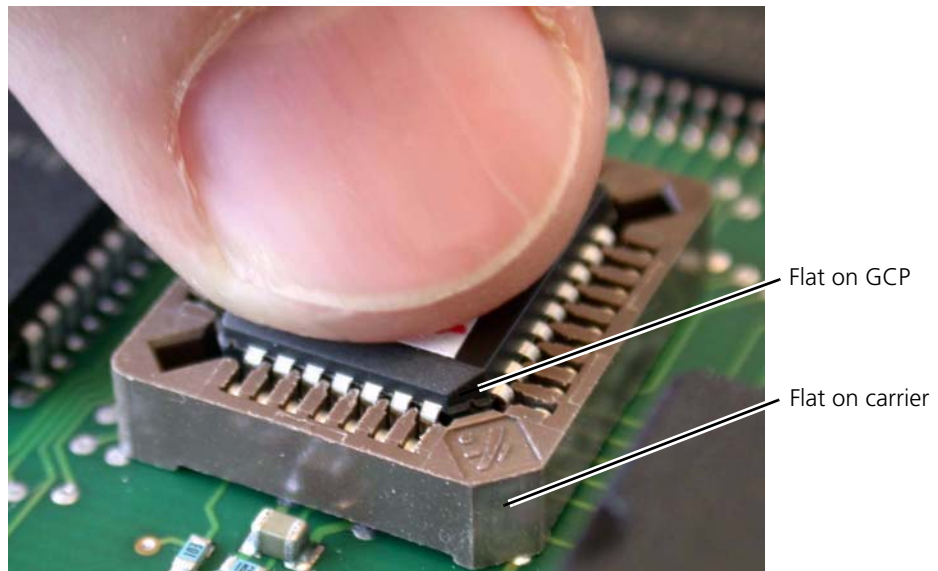

Figure 11-107. Pushing the new GCP EPROM into place
4. Insert the new GCP EPROM by pushing it into place. (Figure 11-107.)